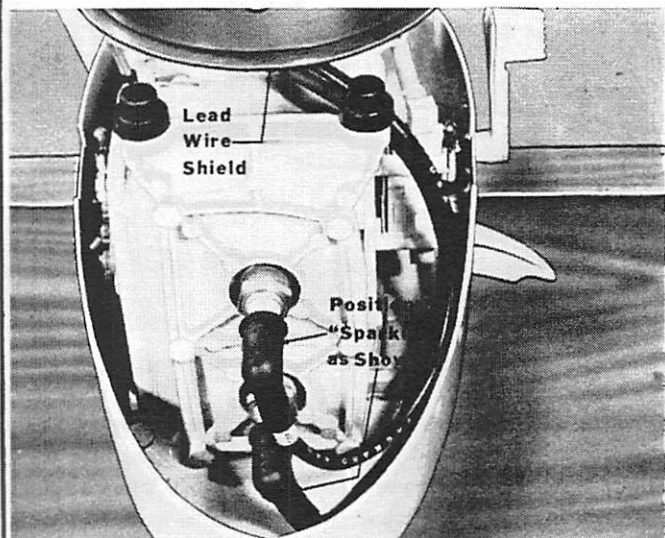

Figure 11. Spark Plug Leads Installed
7. Install spark plug leads on the spark plugs and position as shown in Figures 11 & 12.